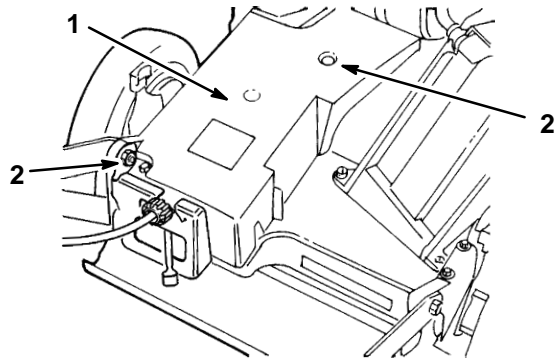

Figure 35
1. With the engine turned off, remove the (2) bolts securing the belt cover (Fig. 35) to the mower housing.